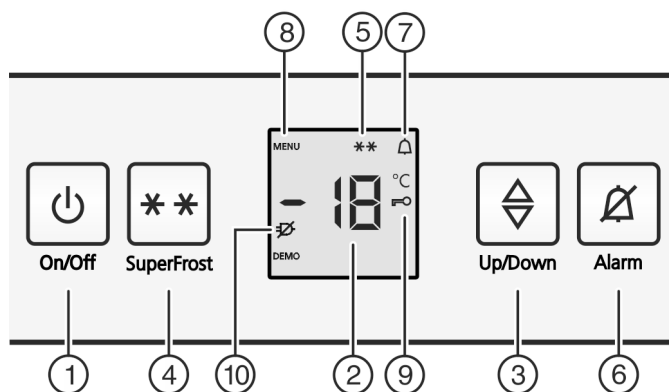

Fig. 2
- ▶ Press the On/Off button *Fig. 2 (1)*.
- ▶ Activate setting mode: press the SuperFrost button *Fig. 2 (4)* for approx. 5 seconds.
- ▷ The Menu symbol *Fig. 2 (8)* is shown on the display.
- ▶ Briefly confirm with the SuperFrost button, *Fig. 2 (4)*.
- ▷ The child lock symbol *Fig. 2 (9)*, lights up on the display.
- ▶ Briefly press the On/Off button *Fig. 2 (1)*.
- ▷ The child lock symbol *Fig. 2 (9)* goes out.
- ▶ Press alarm button *Fig. 2 (6)*.
The temperature display and the alarm symbol *Fig. 2 (7)* flash at the same time.
The audible alarm is automatically silenced, the alarm symbol *Fig. 2 (7)* goes out and the temperature display stops flashing when the temperature is sufficiently cold again.